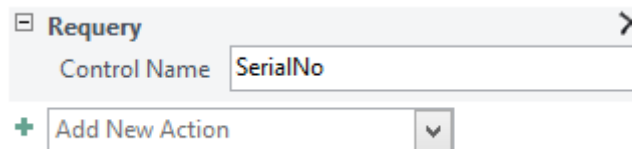

Figure 33: Control Name for Requery Action
3. **Create the Macro:** In the *Add New Action* list, click the arrow and scroll down to select “Requery”. In the *Control Name* field below, type “SerialNo” as shown in Figure 33. Close the window and save the macro when prompted. Access does not allow you to provide a name for the macro so it is saved under the default name.